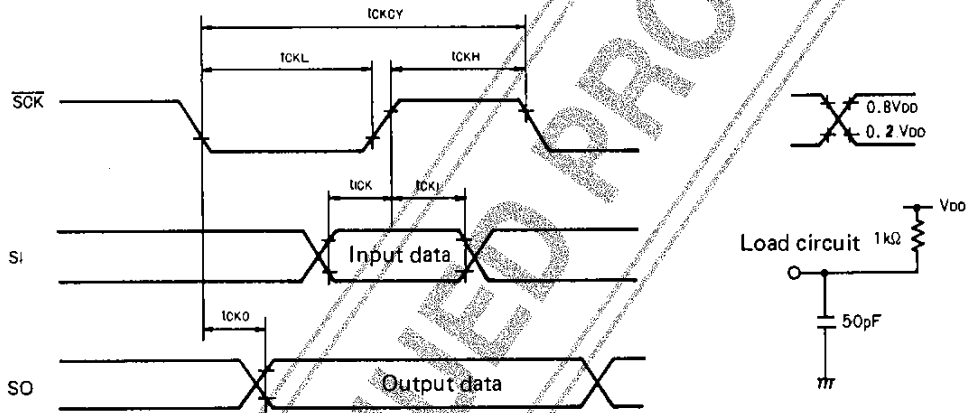

Fig. 6 Serial Input/Output Timing
| Input Clock Cycle Time | t _{CKCY} (1) | SCK: V _{DD} = 4 to 5.5V, Fig. 6 SCK | 3.0 12.0 | | | μs μs |
| Output Clock Cycle Time | t _{CKCY} (2) | SCK (T _{CYC} = 4 × System clock period), Fig. 6 | | 64 × T _{CYC} | | μs |
| Input Clock "L"-Level Pulse Width | t _{CKL} (1) | SCK: V _{DD} = 4 to 5.5V, Fig. 6 SCK | 1.0 | | | μs |
| Output Clock "L"-Level Pulse Width | t _{CKL} (2) | SCK, Fig. 6 | | 32 × T _{CYC} | | μs |
| Input Clock "H"-Level Pulse Width | t _{CKH} (1) | SCK: V _{DD} = 4 to 5.5V, Fig. 6 SCK | 1.0 | | | μs |
| Output Clock "H"-Level Pulse Width | t _{CKH} (2) | SCK: Fig. 6 | | 32 × T _{CYC} | | μs |
| Data Setup Time | t _{ICK} | SI: Specified for ↑ of SCK, Fig. 6 | 0.5 | | | μs |
| Data Hold Time | t _{CKI} | SI: Specified for ↑ of SCK, Fig. 6 | 0.5 | | | μs |
| Output Delay Time | t _{CKO} | SO: V _{DD} = 4 to 5.5V, Specified for ↓ of SCK, Nch OD only: External 1 kohm, external 50 pF, Fig. 6 SO | | | 0.5 2.0 | μs μs |
The load conditions are the same as in Fig. 6.